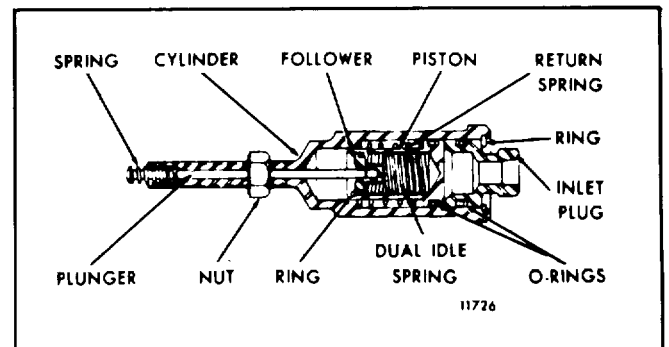

Fig. 2-Fast Idle Air Cylinder
2. Refer to Fig. 2 and disassemble the fast idle cylinder as follows:
- a. Refer to Fig. 2 and insert the dual idle spring inside of the fast idle air cylinder. Place the spring follower, with the small diameter end down, inside of the spring. Apply pressure on the spring follower and compress the spring enough to expose the retaining groove. Then install the retaining ring in the groove.